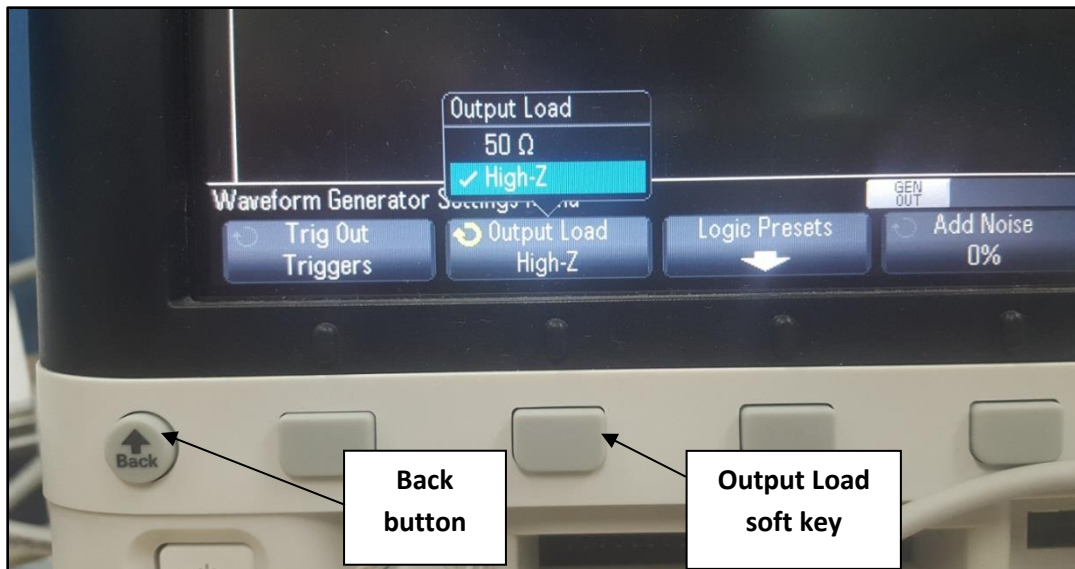

Figure 19: Impedance selection according the probe used.
- Press the soft key below the text “Output Load”, here you will see two options i.e. 50 ohm and High-Z (impedance) as shown in figure 19.